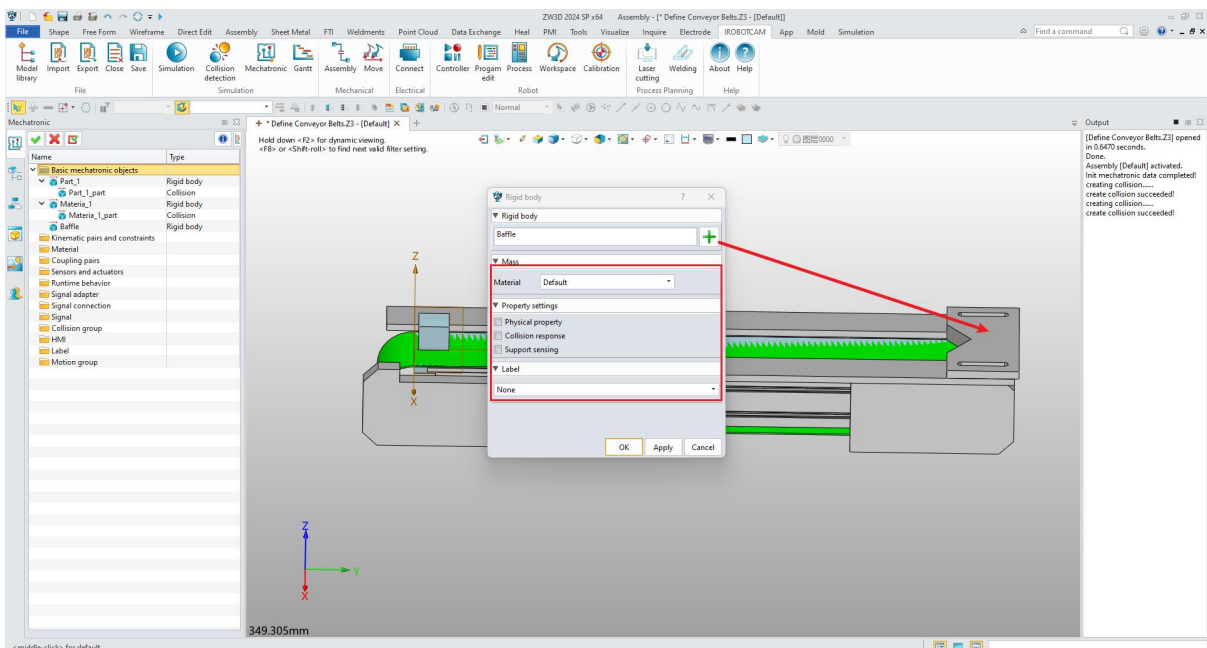

Figure 6-10: Add Barrier Plate Rigid Body
- **Barrier:** Use the "+" button to select the material barrier plate zdk and create it as a rigid body. The default mass is "1", the material is "default", and the property setting is "unchecked". (Figure 6-10)